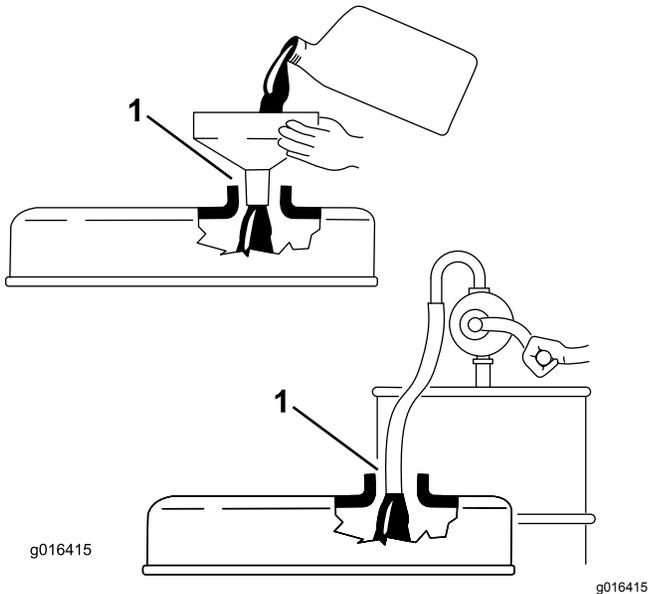

Figure 34
**Important:** Remove the dipstick while filling the engine with oil. When adding engine oil or filling oil, there *must be* clearance between the oil fill device and the oil fill hole in the valve cover as shown in Figure 34. This clearance is necessary to permit venting when filling, which prevents oil from overrunning into breather.